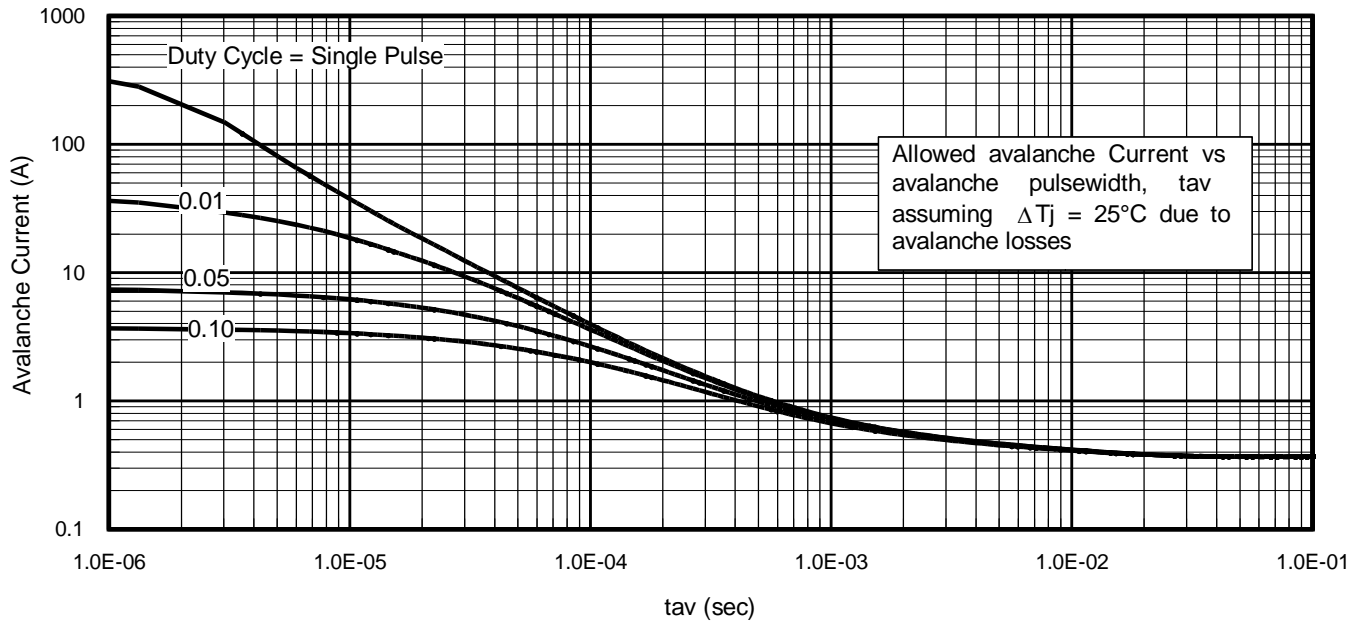

Fig 15. Typical Avalanche Current vs. Pulse width
Notes on Repetitive Avalanche Curves , Figures 15, 16: (For further info, see AN-1005 at www.infineon.com)
7. ΔT = Allowable rise in junction temperature, not to exceed T_{jmax} (assumed as 25°C in Figure 15, 16).